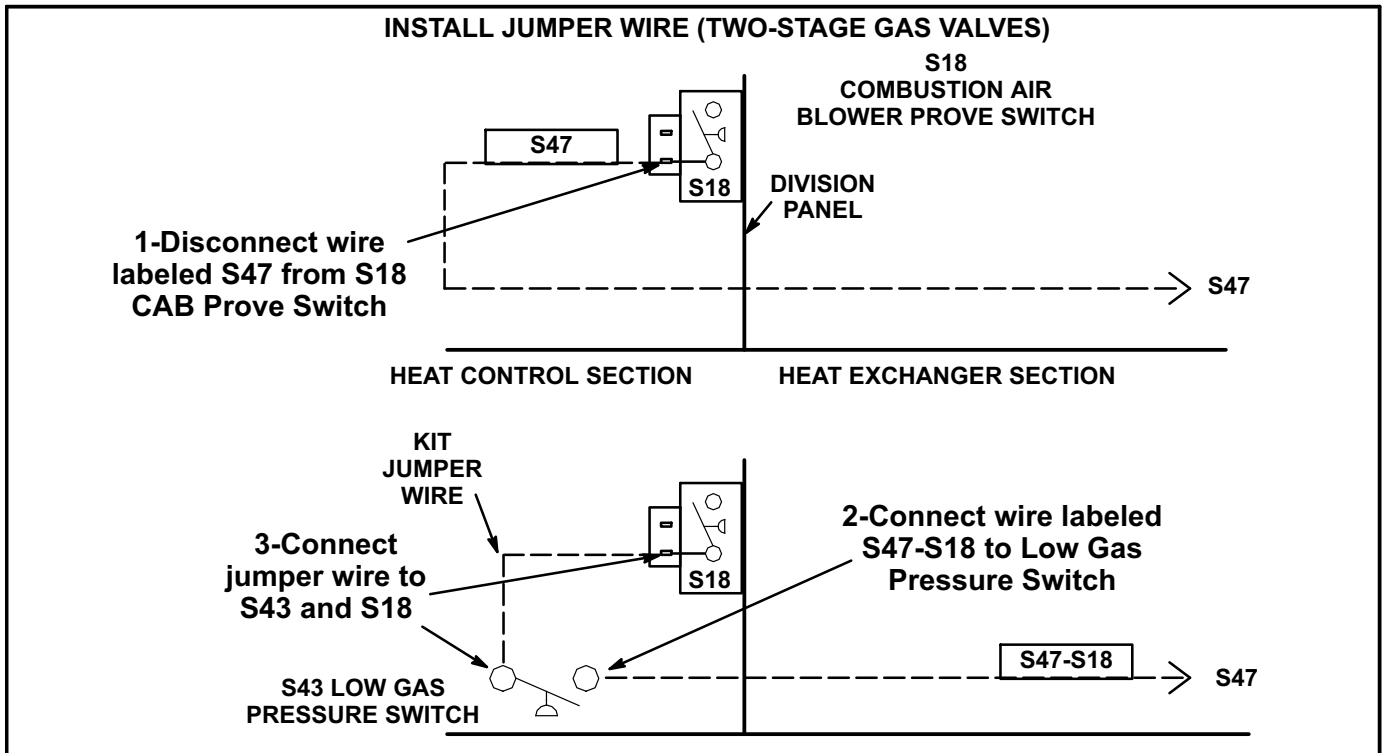

FIGURE 7
- 6- Locate S18 combustion air prove switch and disconnect wire labeled P1-5-S18. See figure 7.
- 6- Disconnect insulated 1/4" quick connects between S18 and S47. See figure 7.
- 7- Reattach 1/4" quick connect to S43. See figure 7.